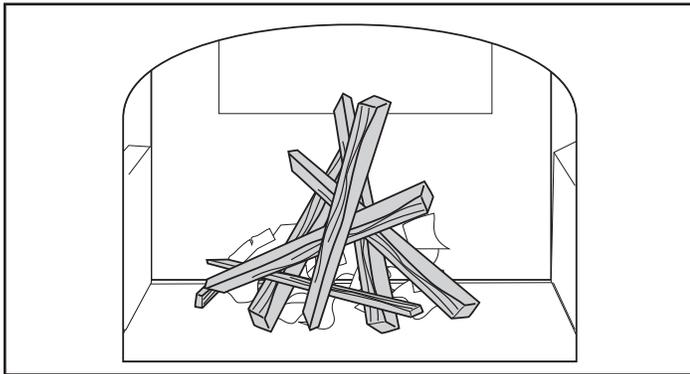

Figure 34 - Start the fire with newspaper and dry kindling.
2. Place several sheets of crumpled newspaper in the stove. Place six or eight pieces of dry kindling split to a finger-width size on the paper. On the kindling, lay two or three larger sticks of split dry wood approximately 19" (25-51 mm) in diameter. (Figure 34)